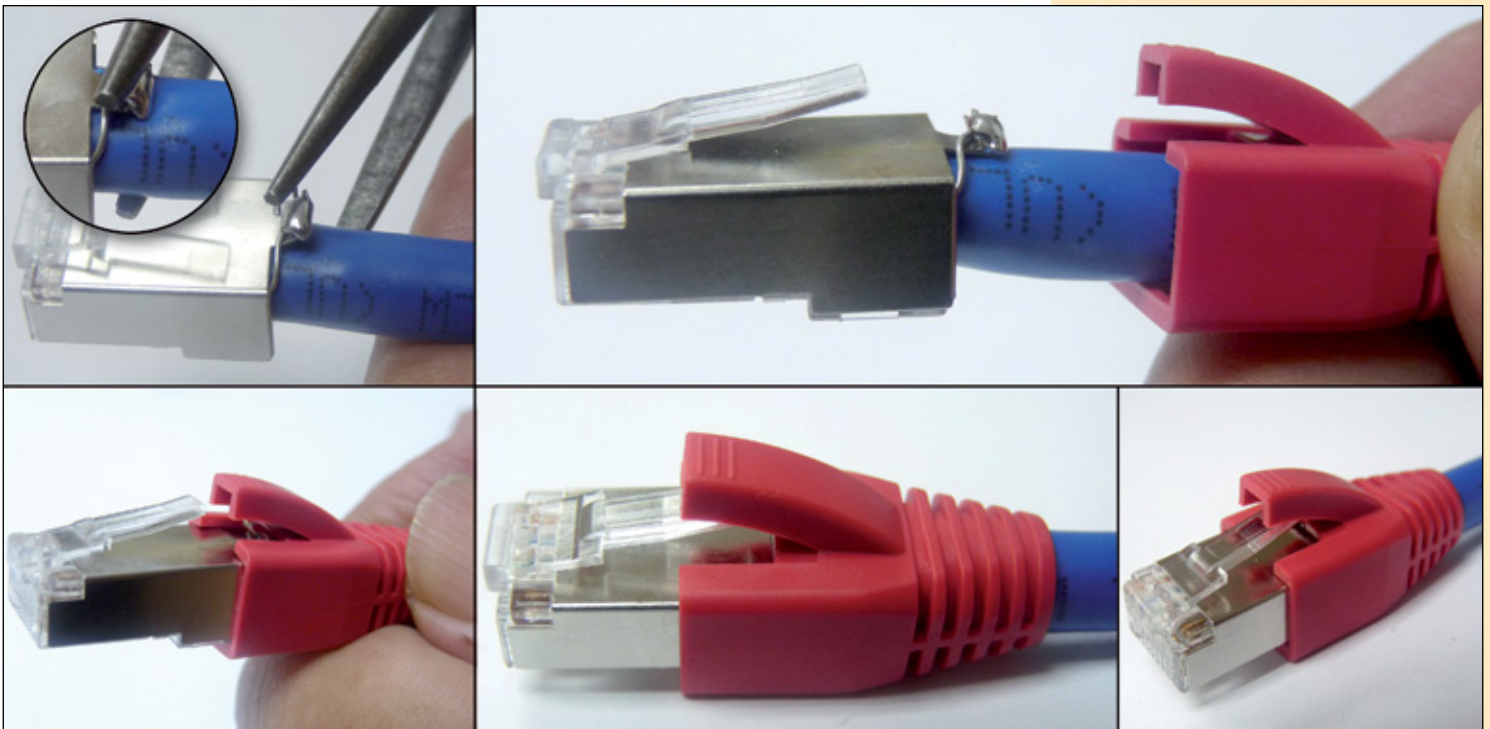

Figure 25
- 20 With the help of the set of pliers tool, crimp the soldered lug to the cable to level it so it can enter the boot opening, then slide the boot against the plug to finish the termination of the cable, as shown in the images of **Figure 25**.